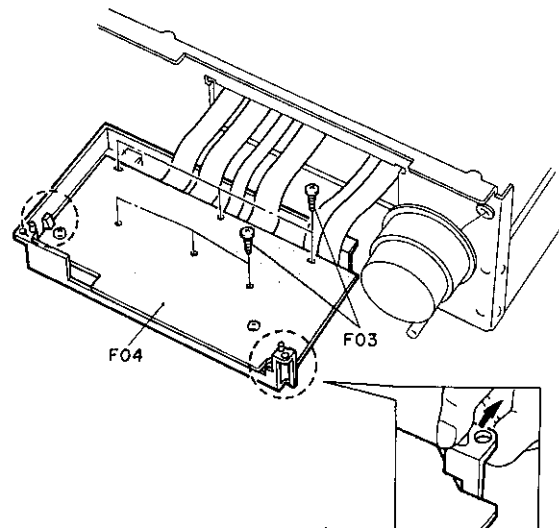

Fig. 2.3.2
- (1) Remove the Front Panel Ass'y referring to item 2.2.
- (2) Loosen screws F01 (4 pcs.) and remove F02 (Front Chassis Ass'y). Note: As the pins of F02 (Front Chassis Ass'y) are inserted into the chassis, pull F02 (Front Chassis Ass'y) toward you to separate it.
- (3) Loosen screws F03 (6 pcs.), unhook Claws (2 pcs.), and remove F04 (Control Switch & Display P.C.B. Ass'y). Refer to Fig. 2.3.2. Note: To disconnect flat cables of F04 (Control Switch & Display P.C.B. Ass'y) from Video & Logic P.C.B. Ass'y, refer to item 2.4.